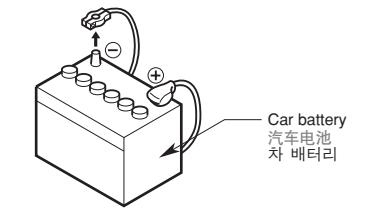

Figure 1 / 圖 1 / 그림 1
- Be sure to disconnect the battery "(-)" terminal before starting. This is to prevent short circuits during installation. (Figure 1)
- 开始之前请务必断开电池的“-”端子，以避免在安装中造成短路。(图1)